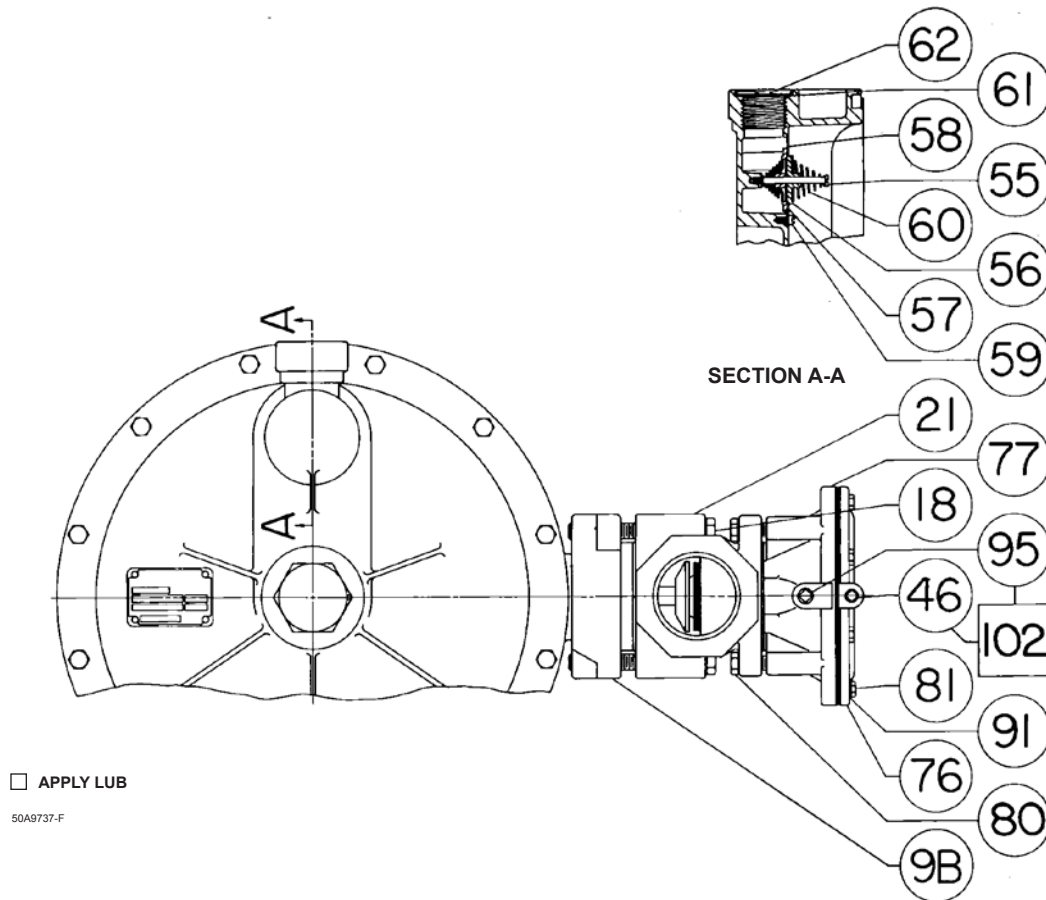

Figure 4. Type S203 Regulator Assembly
- 8.8 Attach the monitor to the body with the four cap screws (key 80, Figure 4). Tighten them evenly to 8 to 10 foot-pounds torque for lubricated screws or 14 to 16 foot-pounds torque for unlubricated screws.
Excessive torque on the cap screws (key 80) may crack the monitor lower casing (key 77, Figure 4).
The type number, date of manufacture, main spring range, orifice (port) size, maximum inlet pressure, and maximum operating outlet pressure are stamped on a nameplate (key 32, Figure 4) mounted on the boss of the spring case. A small nameplate (key 91, Figure 4) mounted on the monitor gives the monitor spring part number and range. Always provide the nameplate information in any correspondence with your local Sales Office regarding replacement parts or technical assistance. If construction changes are made in the field, be sure that the nameplate is also changed to reflect the most recent construction.